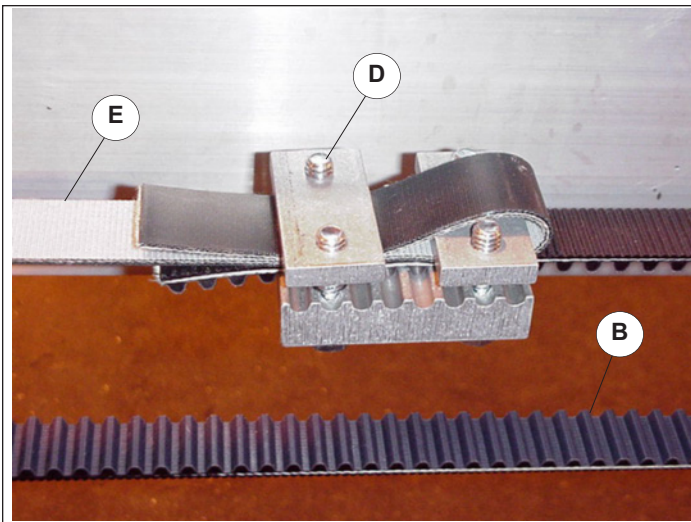

Figure 26.2
2. If replacing non-drive belt (E), loosen the belt from the ratchet, and the bolts from the compression plate (D) and remove the belt. Make sure the white side of the belt is to the outside of the pulley when assembled, Figure 26.2.